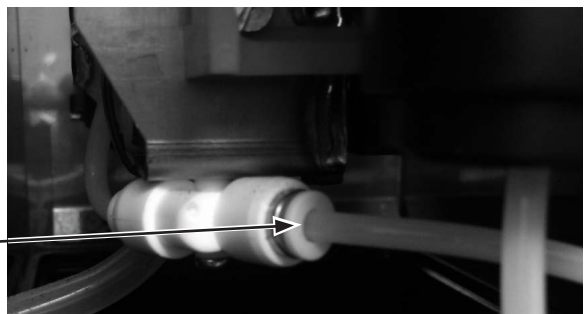

Figure 5
8. Install group head tube into quick connect fitting on bottom of espresso drive, insuring that the tube is fully inserted as shown in Figure 5.